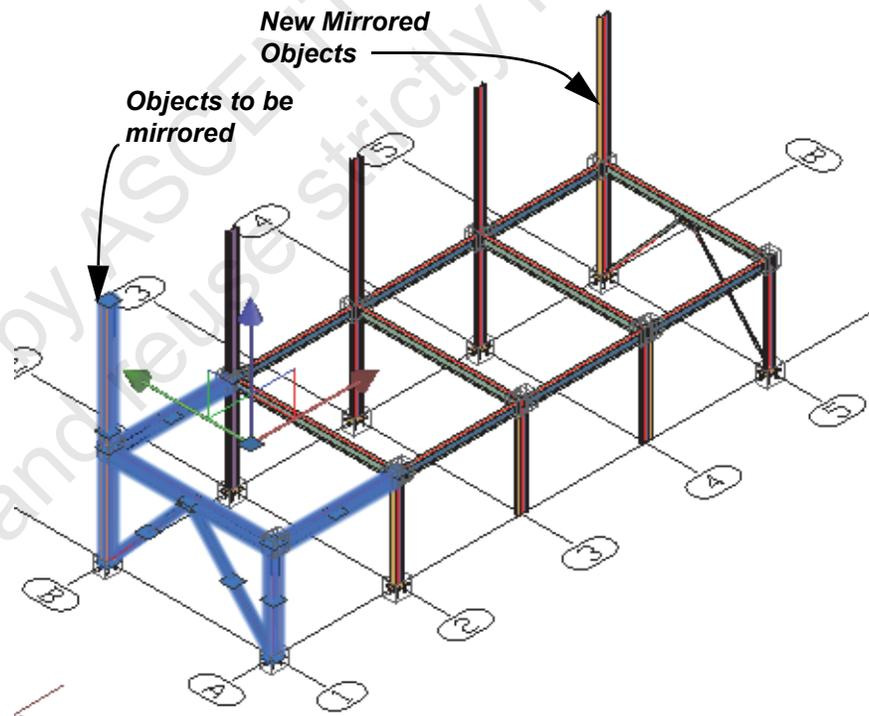

Figure 1–68
15. In the dialog box, click **Preview**. The mirrored objects should display as shown in Figure 1–68. Click **OK**.